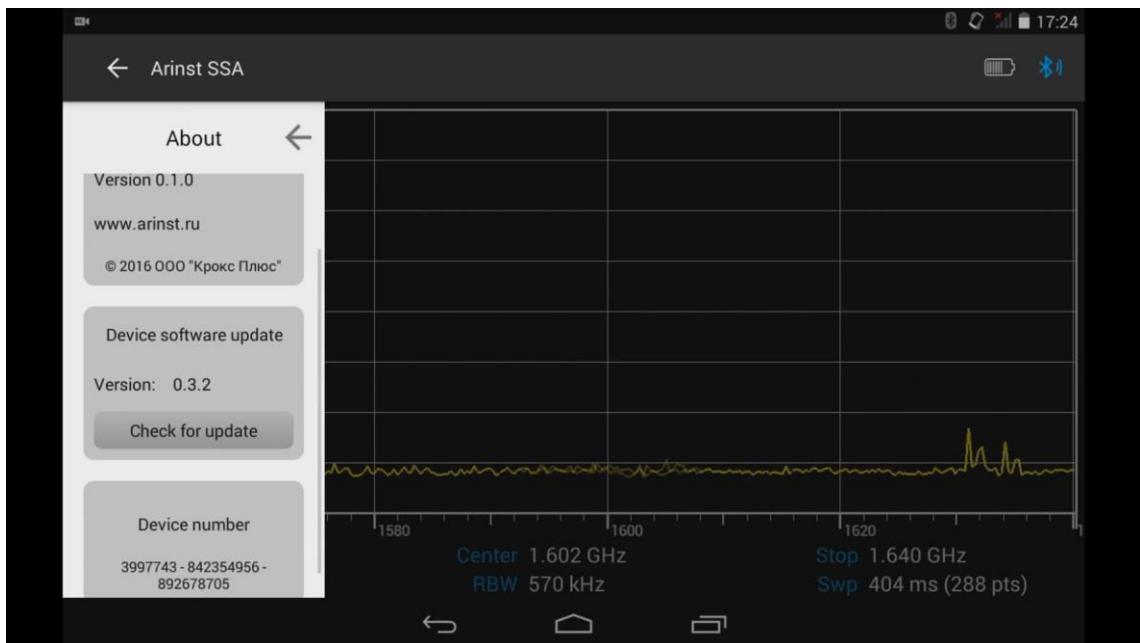

Figure 66 – Information about the control program and the device
8.13.1. From the main menu of the control program, enter the **About** menu, which contains information about the software version, software version of the device and the device number, figure 66. To check the availability of a new software version of the device, click the **Check for update** button. If a new version of the instrument software is released, it will be possible to update the instrument software.